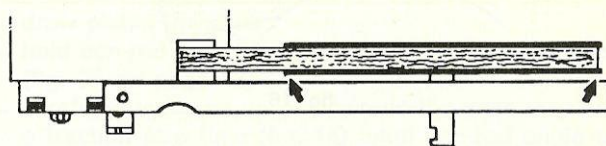

fig. 21
- check alignment of both pulleys, using a steel ruler, as illustrated in fig. 21 and whether the large pulley runs perfectly true (max. deviation 1 mm on each side).